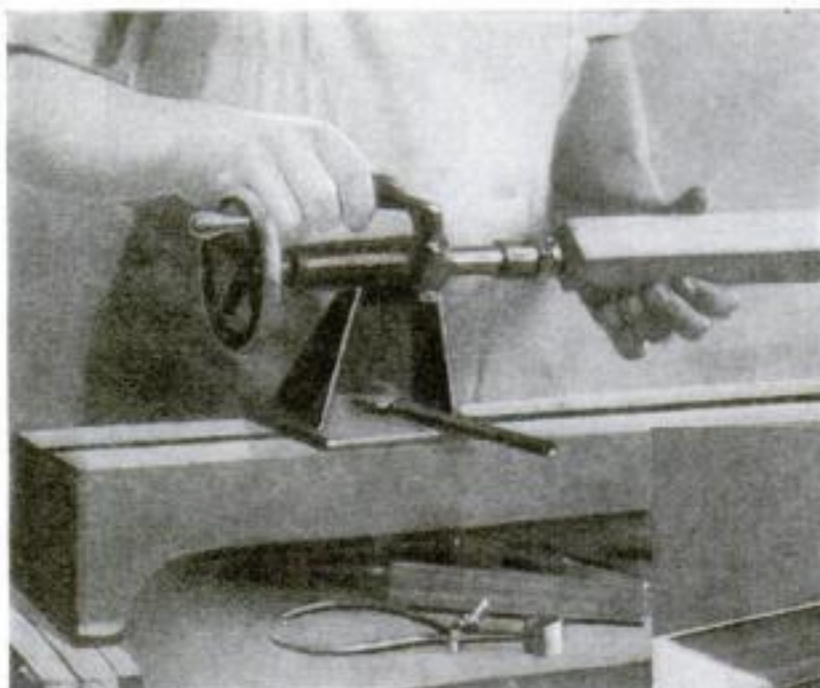

Fig. 2. The tail center should engage the work quite firmly, but not so tightly as to bind.
*Step No. 3—Placing the Work in the Lathe.* The live center end is placed in position first and the tailstock is moved up close to the work. Clamp the tailstock securely in place, hold the wood with the left hand, and then screw up on the spindle adjustment until the dead center enters the wood. It must be tight enough to hold the work up against the live center and yet not so tight that the wood will not turn freely when revolved by hand (see Fig. 2). Place a drop of oil on the dead center to avoid friction and the ultimate burning of the wood at the point of contact.